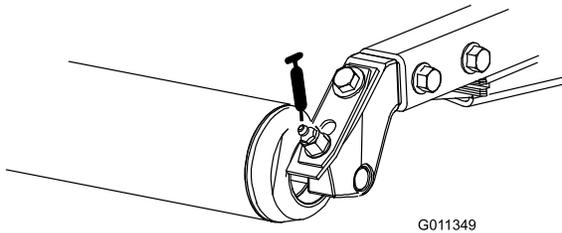

Figure 42
- Rear roller bearings (2 per cutting unit) (Figure 42)